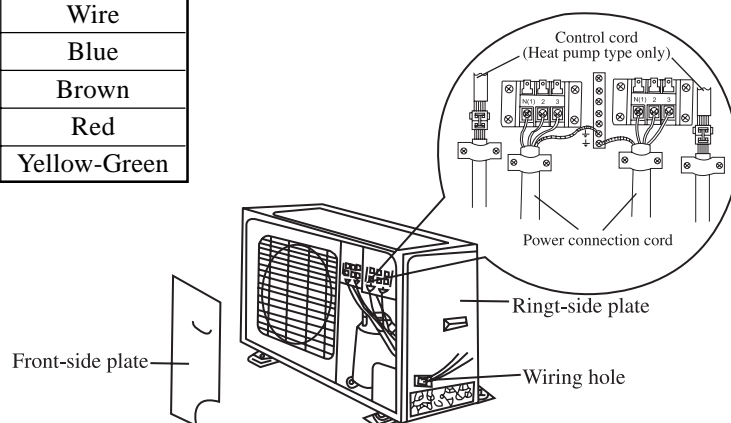

Fig.6
7. Fix all the wires on the right-side plate with the clasp welded on the plate to avoid the wires from touching with the compressor. (Shown in Fig. 6)